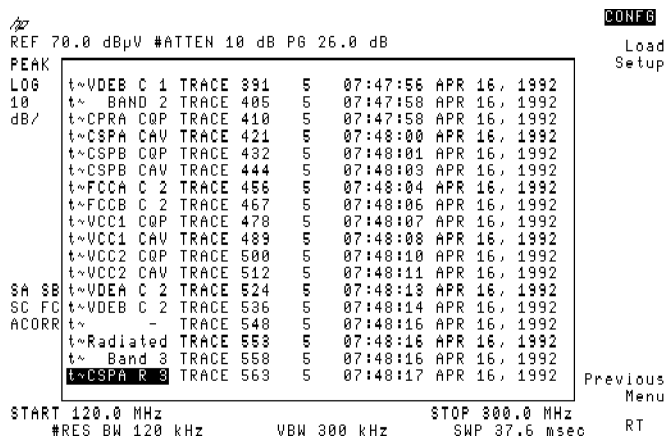

Figure 3-39. CSPA R 3 Selected
4. Scroll to **CSPA R 3** using either the front-panel knob or the step keys. See Figure 3-39.